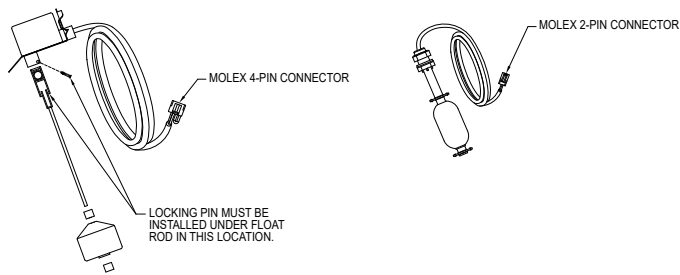

FIGURE 3
8. Assemble the operation float assembly per Figure 3. Install float switches as seen in Figure 1.
10. Install the Fit Controller (see Figure 3) by using the anchors provided. For best cooling, install wall mount configuration. The controller should be located at least 3' (1 m) above the sump.